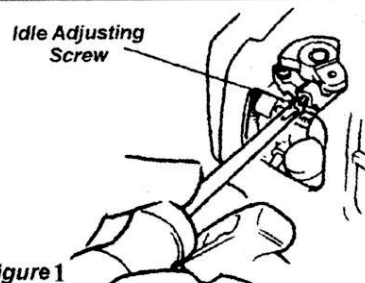

Figure 1
2. If the cutting attachment rotates at engine idle, reduce idle speed by turning the idle adjusting screw counter clockwise as necessary. See Figure 1.